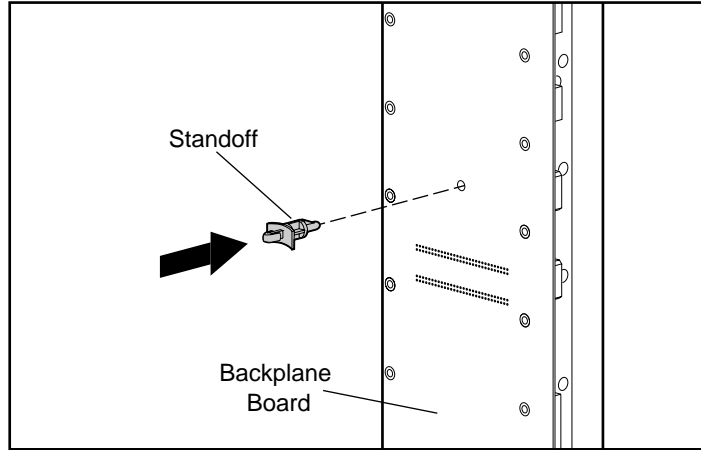

Figure 6-4. Installing the Standoff
11. Locate the plastic standoff in the Duplexing Option Kit and install it in the appropriate hole on the drive cage Backplane. See Figure 6-4.